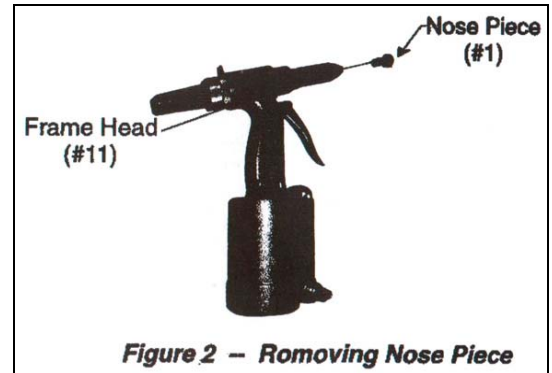

Figure 2 – Removing Nose Piece
When changing NOSE PIECES (#1 A to # 1 D), simply unscrew the NOSE PIECE, and tightly screw in the desired NOSE PIECE. (The unit comes with the 3/16" NOSE PIECE (#1A) installed.) See Figure 2.
- 3- Use the spanner to open the bottom cover as fig 2.
- 3- Use the spanner to remove the Jaw Housing, Jaws, Jaw Pusher, and the Pusher Spring. (Fig 2)